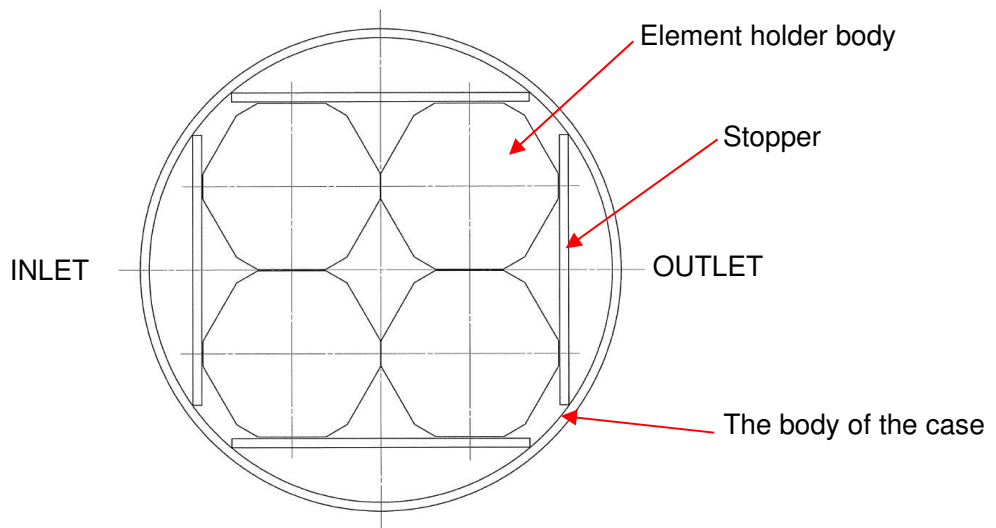

Fig6 Example of allocation of hexagon bearing bodies (When the number of arranged elements is four)
2) When setting the element holder assembly, place the hexagon bearing body inside the stopper of the case as shown in Fig. 4 and Fig. 6.